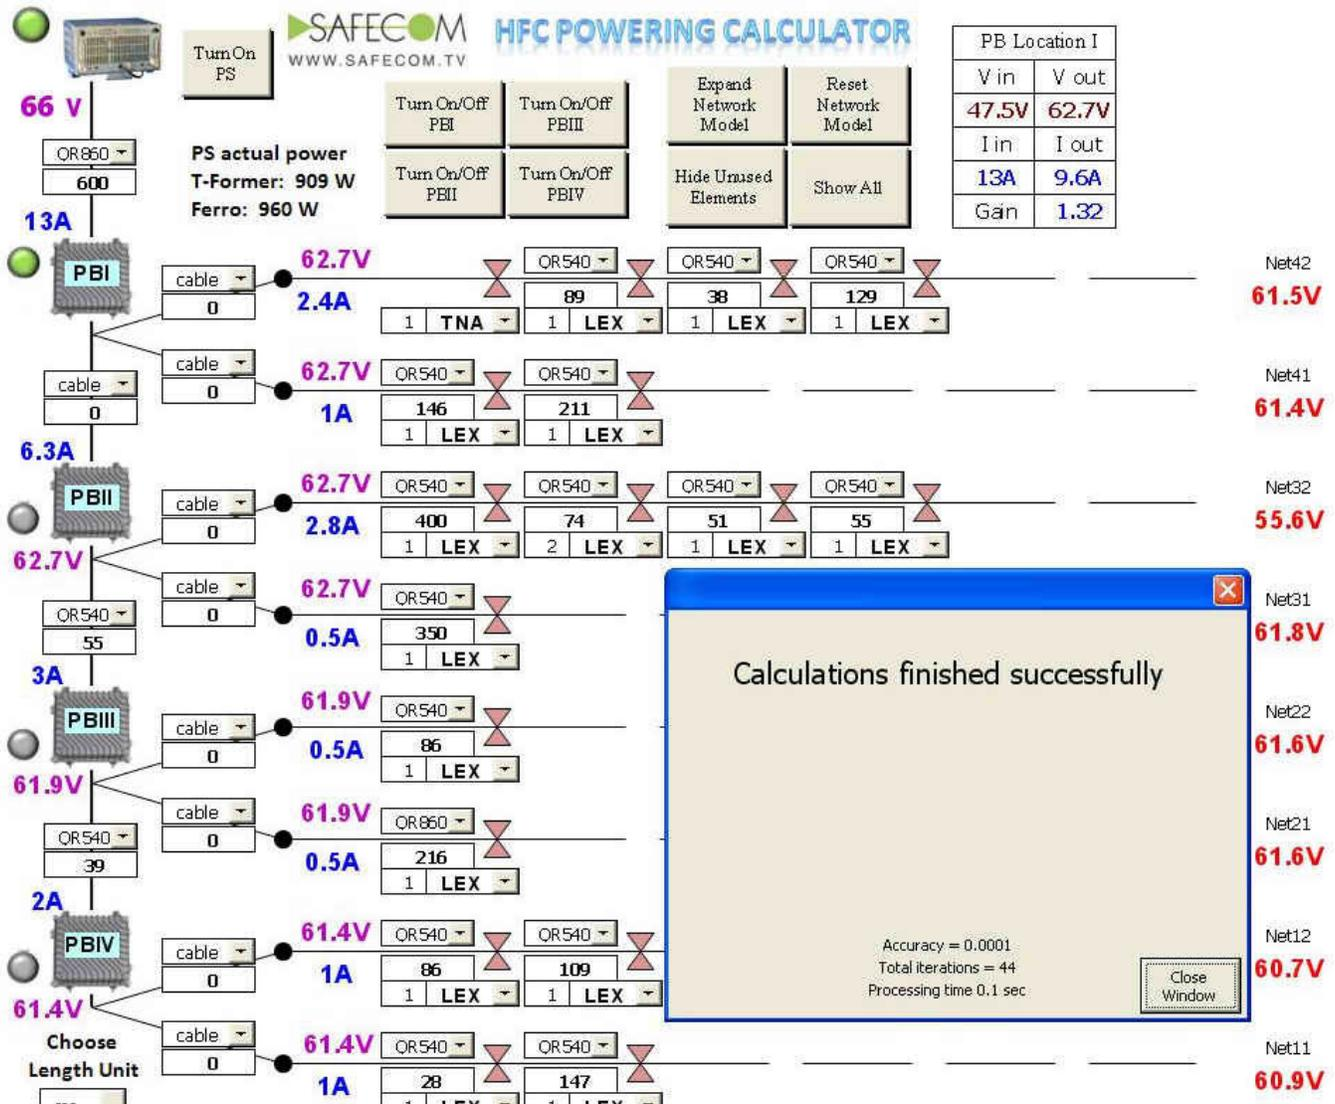

Fig.19 Power Booster solution. "Low Voltage" problem solved.
9. The low voltage problem occurs at the branches Net12 and Net32, hence we'll try to use Power Booster I before trunk amplifier. Press the button Turn On/Off PBI to calculate. Check the results (Fig.19). The Power Booster I LED "ON" indicator is Green; the calculated parameters appear in the Power Booster table. The low voltage problem is solved successfully.